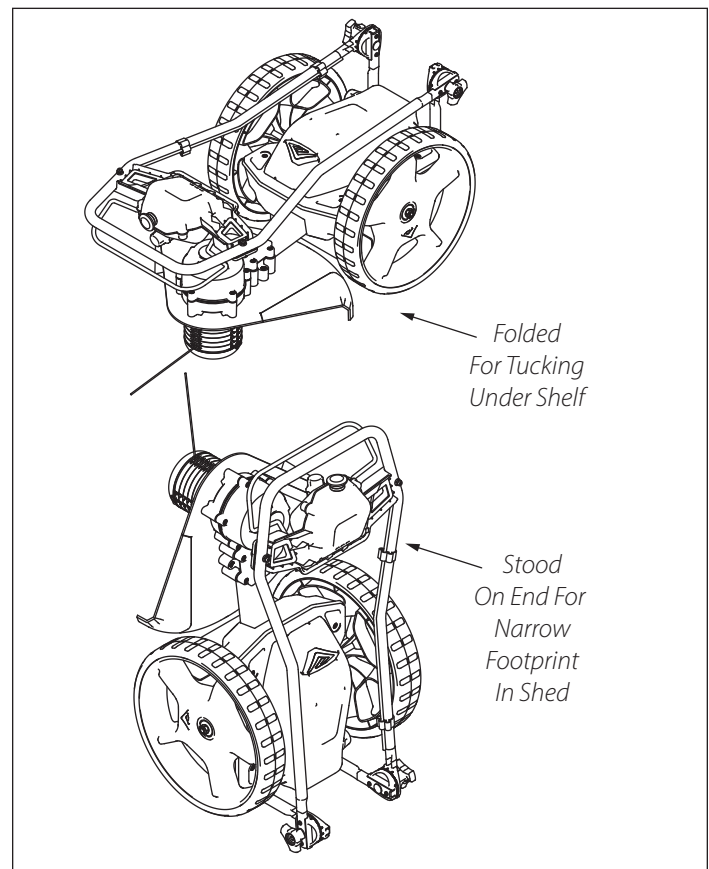

Figure 7
- Handlebars can be folded down to minimize unit footprint as shown in **FIGURE 7**.
- Unit can be stored vertically as shown in **FIGURE 7**.